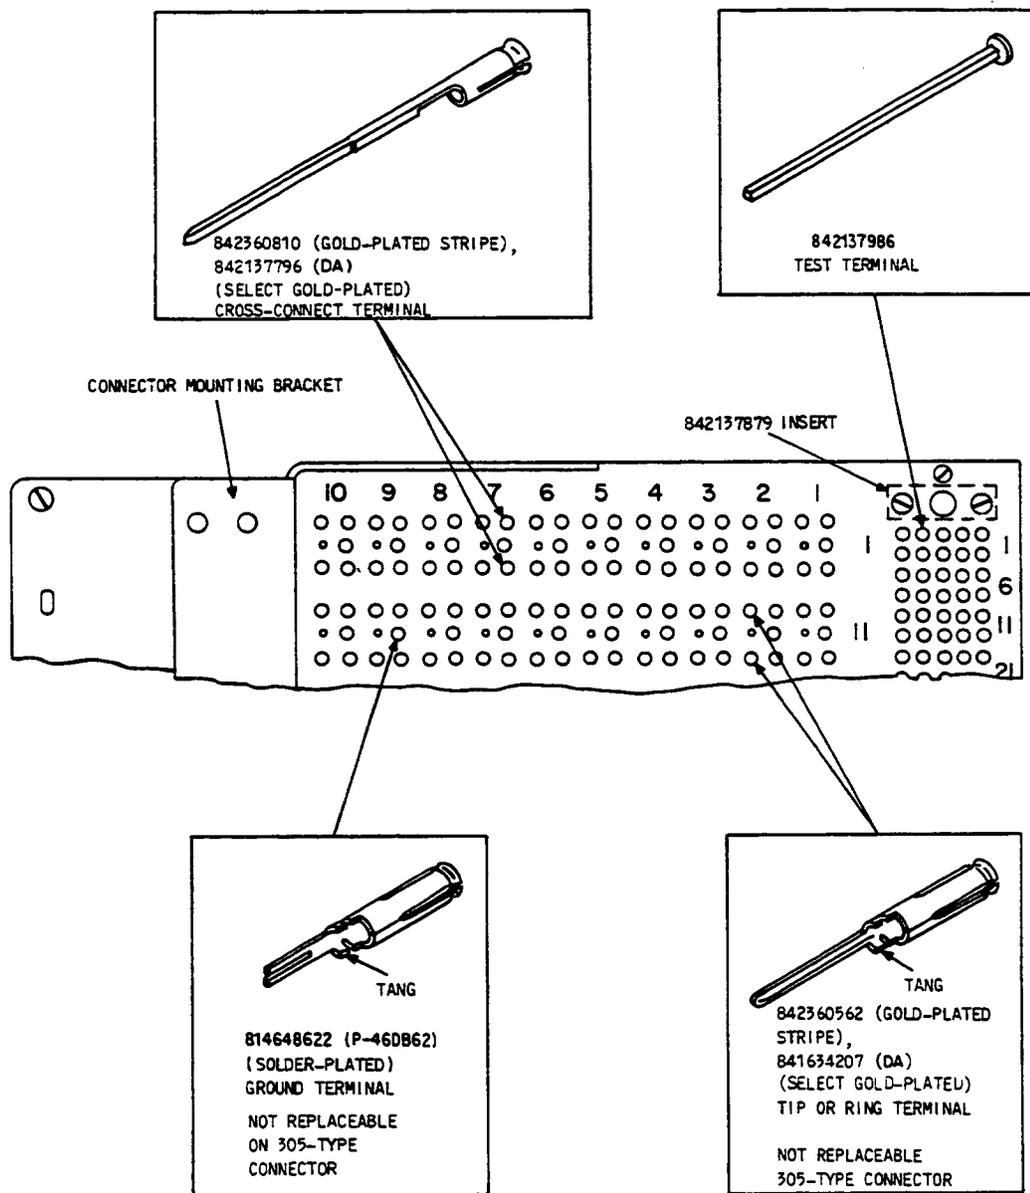

Figure 9—305-Type Connector — Replacement Terminals
4.07 To remove the 842360810 or 842137796 (DA) cross-connect terminal (Figure 9), proceed as follows:
**4.09** To remove the 842137986 test terminal (Figure 9), proceed as follows: